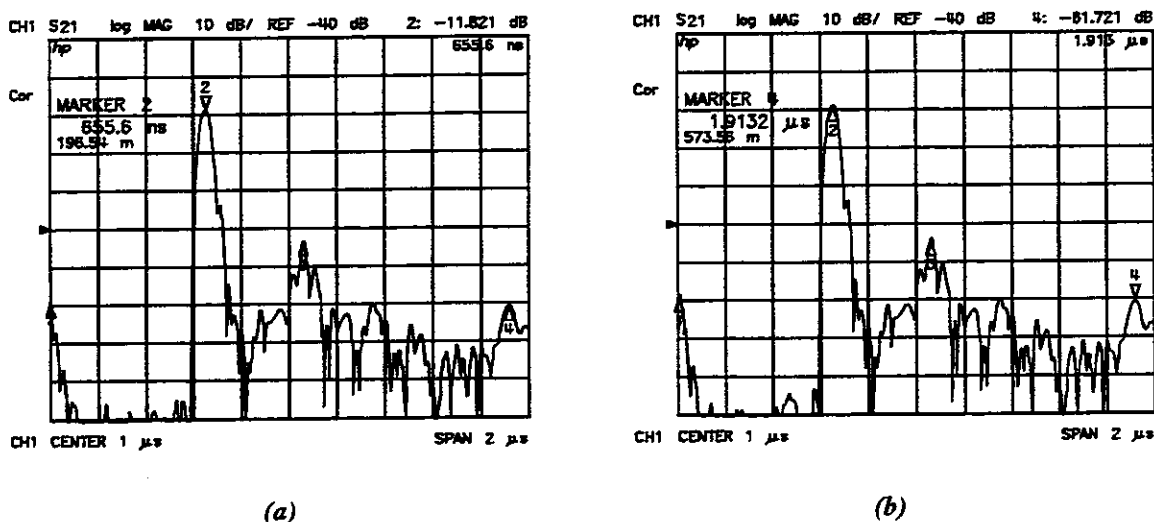

Figure 9–4. Transmission Measurement in Time Domain Bandpass Mode
3. Connect one or more lengths of cable, with adapters between cable sections, as shown at the top of Figure 9–3.
9. Figure 9–3 shows typical frequency and time domain responses of a reflection measurement of two sections of cable.
The bandpass mode can also transform transmission measurements to the time domain. For example, this mode can provide information about a surface acoustic wave (SAW) filter that is not apparent in the frequency domain. Figure 9–4 illustrates a time domain bandpass measurement of a 321 MHz SAW filter.
Marker 2 in Figure 9–4 (a) indicates the main path response through the device, which has a propagation delay of 655.6 ns, or about 196.5 meters in electrical length. Marker 4 in Figure 9–4 (b) indicates the triple–travel path response at 1.91 μ s, or about 573.5 meters. The response at marker 1 (at 0 seconds) is an RF feedthrough leakage path. In addition to the triple travel path response, there are several other multi–path responses through the device, which are inherent in the design of a SAW filter.